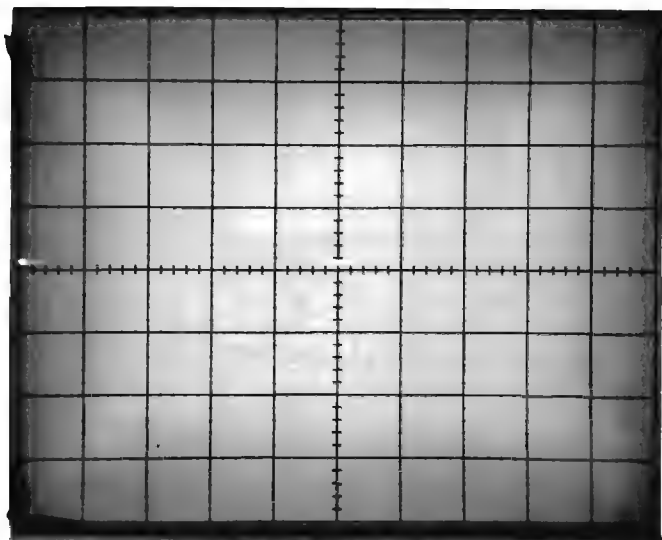

Fig. 5-1. Illustration of step 15c.
c. Switch LEFT-RIGHT to RIGHT, press the BEAM FINDER button to locate the spot, and position the 11th spot to graticule center or a reference point near center and note the position of the 10th and 11th spots (see Fig. 5-1).